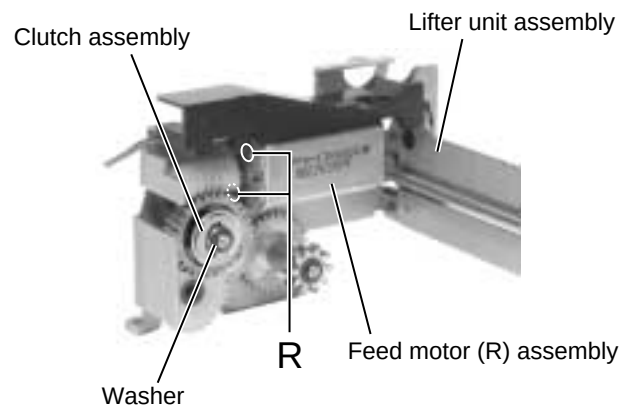

Fig.14
■ Removing the feed motor (R) (See Fig.14)
2. Remove the two screws R attaching the feed motor (R).